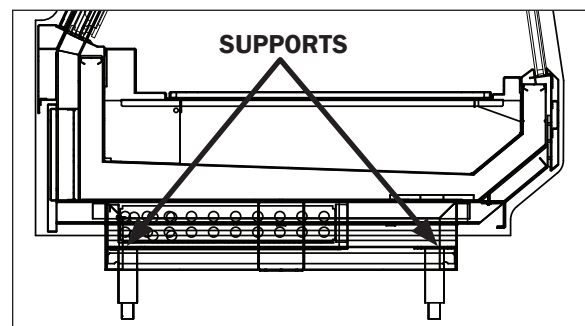

Fig. 2 Vertical supports
5. Locate vertical support positions along the chalk line (Fig. 2). Spot properly leveled shim packs at each support location.